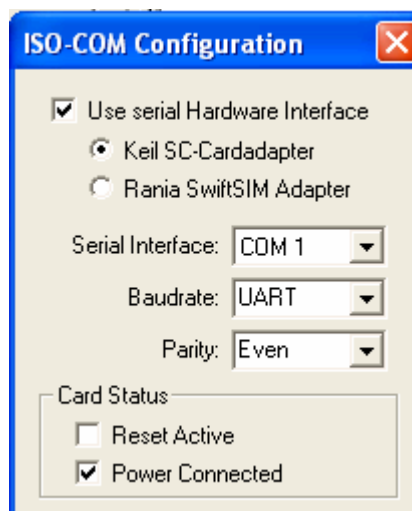

Figure 7: Configuration
4. Configure paddle board simulation in **Peripherals -> ISO/COM Config** under the Peripherals Menu Item as shown in Figure 7.